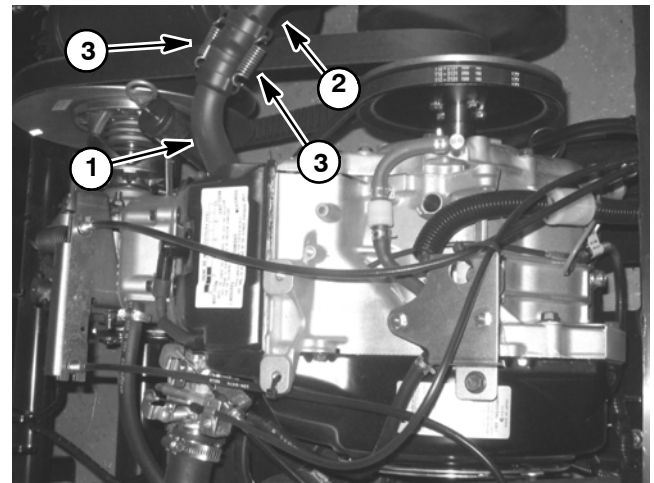

Figure 6
3. Remove four (4) springs securing the exhaust coupler to the muffler and exhaust manifold (Fig. 6).
4. Remove two (2) cap screws and lock washers securing the muffler to the swing arm.
6. If needed, remove exhaust manifold from engine by removing two (2) nuts. Remove exhaust gasket and clean gasket surfaces of manifold and engine.